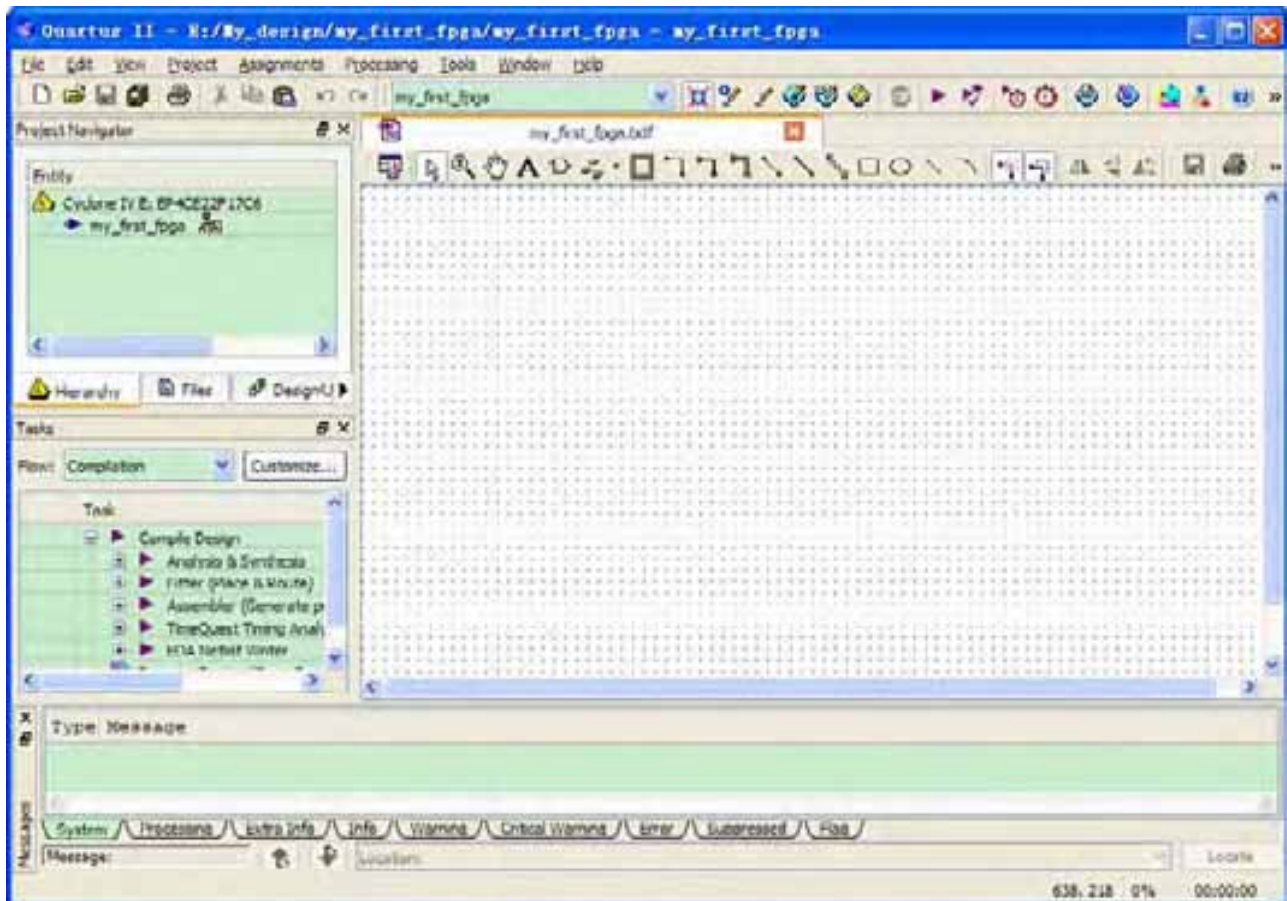

Figure 6-13 Bank BDF
4. Click **Save**. The new design file appears in the Block Editor (see Figure 6-13).